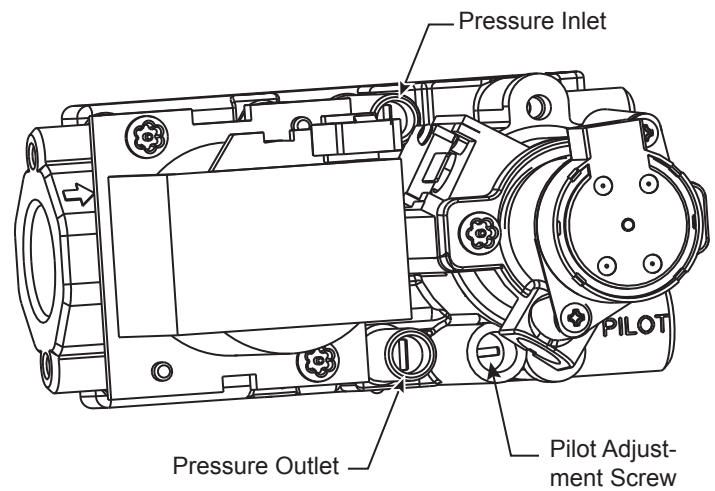

Figure 52 -
4. To check gas pressures at valve, turn captured screw counter clockwise 2 or 3 turns and then place tubing to pressure gauge over test point. Turn unit to high. *Figure 52.* After taking pressure reading, be sure and turn captured screw clockwise firmly to reseal. Do not over torque. Check test points for gas leaks.